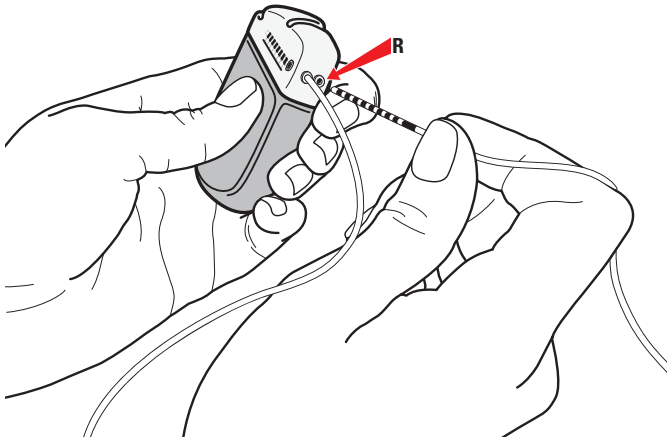

Figure 42. Connection to IPG Port R
2. Connect the right hemisphere Lead Extension to Port R (or D) (Figure 42).